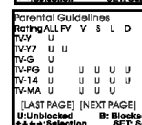

Figure 3
7. When you have completed the settings, press the MENU/ADJ keys (MENU $\uparrow \downarrow \leftarrow \rightarrow$ keys on the remote) to select NEXT PAGE, then press SET key to the next menu (See Figure 3 - MPAA Ratings). Or you can select LAST PAGE to go back to last setting.